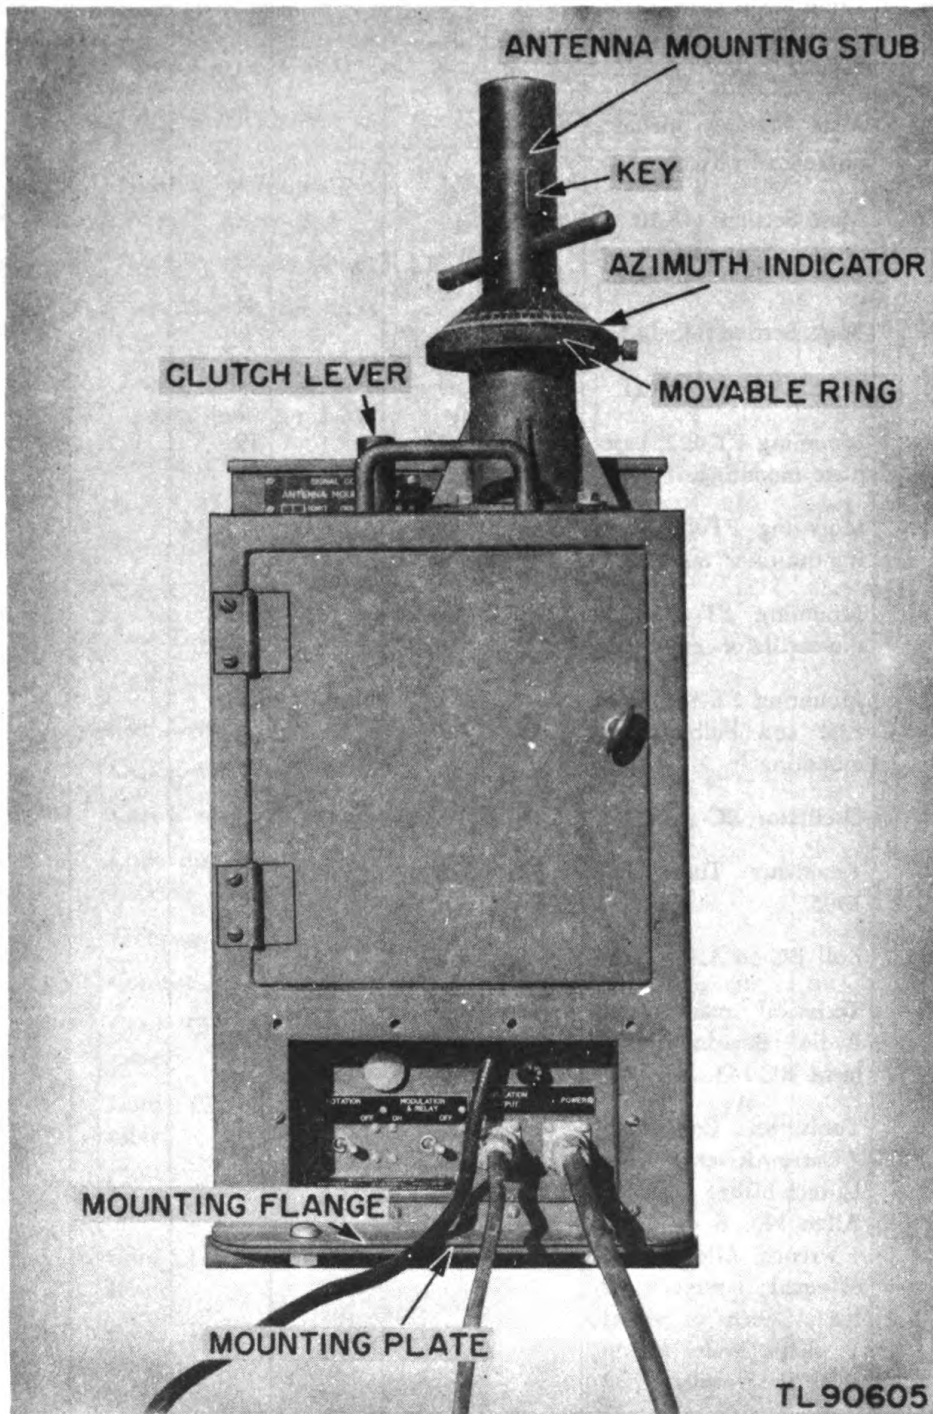
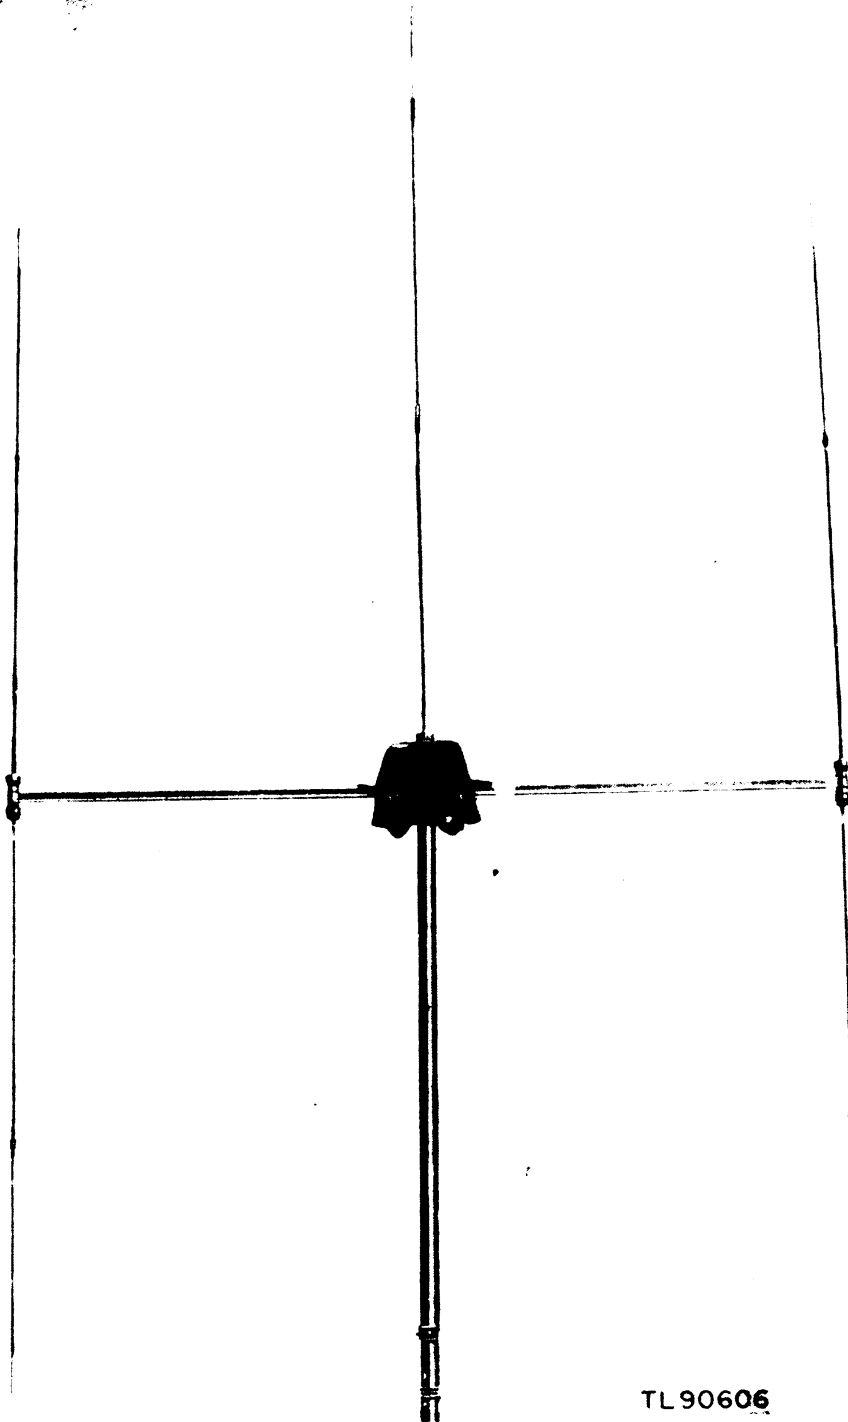
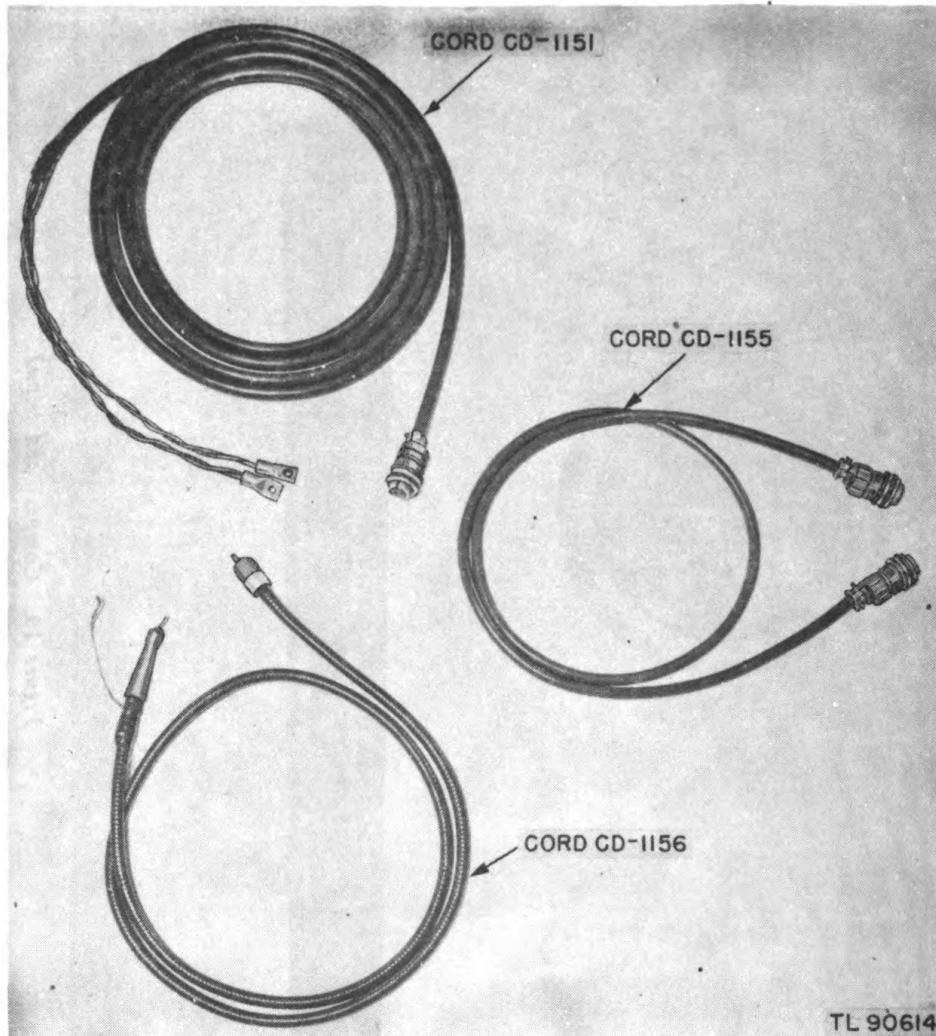

Figure 2. Antenna Mount MP-67.
Figure 3. Antenna array, assembled.
Figure 11. Cords CD-1151, CD-1155, and CD-1156.
a. The antenna mount (fig. 2) is a steel box 12 inches wide, 15 $\frac{3}{4}$ inches deep, and 20 inches high. Flanges on the bottom of the mount are bored for
a. General. The beacon antenna system (fig. 3), consists of an Adcock-type antenna in conjunction with a vertical dipole. Included with the system is the phase-load box containing the necessary phasing circuits.
b. Vertical Dipole. (1) The vertical dipole consists of a hollow Mast MS-119, on top of which is mounted the phase-load box, and a mast consisting of three sections which screws into the top of this box.
(2) Mast MS-119 consists of approximately 6 feet 5½ inches of 2¼-inch hollow tubing, with bakelite insulators at each end and a polarized socket below the bottom insulator. This socket slides over the antenna mounting stub in the antenna mount. Two keys on the outside of the mounting stub (fig. 2), fit into the notches in the polarized mast socket. These keys serve as a rest and are so constructed that the mast can only be inserted correctly into the antenna mounting stub. These keys eliminate strain from the electrical connections between the stub and the mast when the antenna rotates. Within the mast an r-f transmission line terminates at the lower end in solid male type jacks which mate with split female plugs mounted within the stub. At the upper end, the r-f transmitter line connects to the circuits within the phase-load box.
(3) A canvas cover, Cover BG-181, is furnished to protect the lower end of the mast when not in use.
- b. Cord CD-1151.* (1) The power cord, Cord CD-1151 (fig. 11), consists of two No. 14 B and S gauge wires, 10 feet long enclosed in a rubber sheath. (2) A connector on one end of the cord allows for connection to the POWER
socket on the control panel (fig. 2). The other end of the cord contains 2 battery lugs for connection to a 12-volt storage battery. The lugs are plainly marked; the red lug for connection to the positive pole of the battery, and the black lug for connection to the negative side of the battery.
- c. Cord CD-1155.* (1) The audio cord, Cord CD-1155 (fig. 11), consists of two shielded No. 18 B and S gauge wires covered with a rubber sheath. The cord is terminated on one end by a three-prong connector for connection to the MODULATION OUTPUT control socket (fig. 2) on the panel and the other
d. Cord CD-1156. Cord CD-1156 (r-f coaxial cable) (fig. 11) is a flexible two-conductor coaxial cordage which is intended for transmission of high-frequency current. The inner wire is one conductor and the outer shield acts as the other conductor. The entire cord is vinyl covered to prevent damage to the shield.